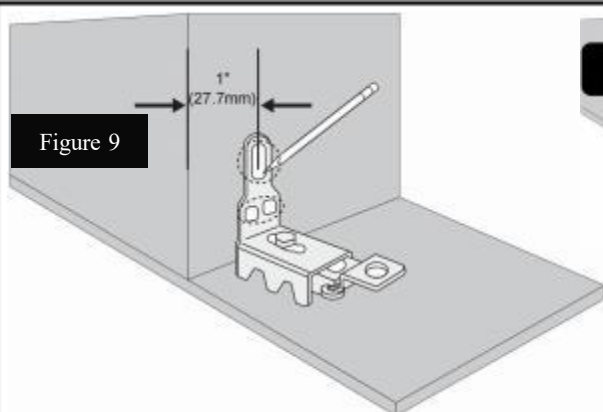

Figure 9
- **Step 1:** Place lower jamb pivot right under upper pivot, tight to the floor. The distance from lower jamb pivot to the edge of the jamb should be 1" (27.7mm) as shown (Figure 9). Use a pencil to mark the 3 places where holes are to be drilled as shown (Figure 9).